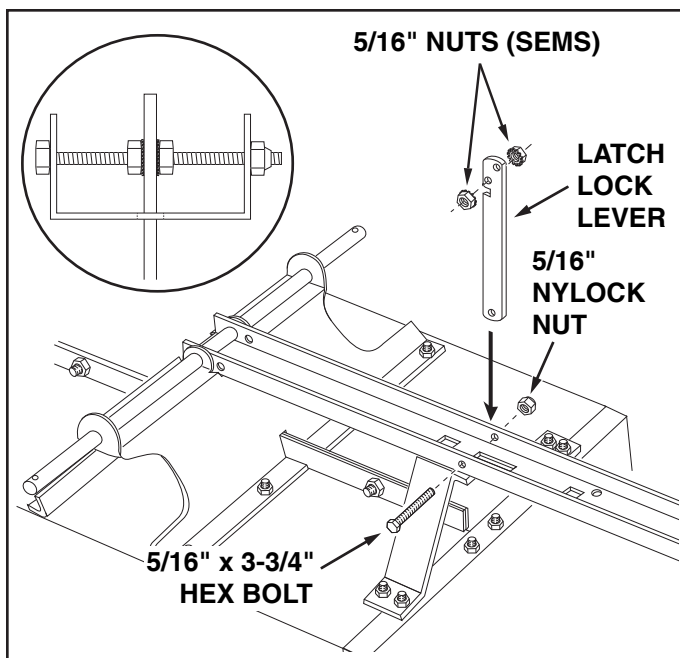

FIGURE 10
15. Place the latch lock lever through the slot in the draw bar tongue as shown in figure 10. Assemble the 5/16" x 3-3/4" hex bolt through the tongue, the lever and two 5/16" nuts (SEMS) (one on each side of the lever). Assemble the 5/16" hex lock nut onto the end of the bolt and **tighten** so that the bolt can still rotate freely. **Tighten** the two 5/16" hex nuts against the sides of the latch lock lever so that the lever is centered in the slot. See figure 10.